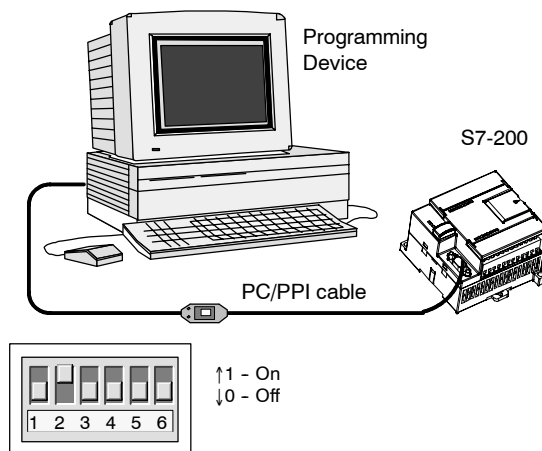

Figure 2-2 Connecting the PC/PPI Cable
Figure 2-2 shows a PC/PPI cable connecting the S7-200 to the programming device. To connect the PC/PPI cable:
3. Ensure that the dipswitches of the PC/PPI cable are set as shown in Figure 2-2.